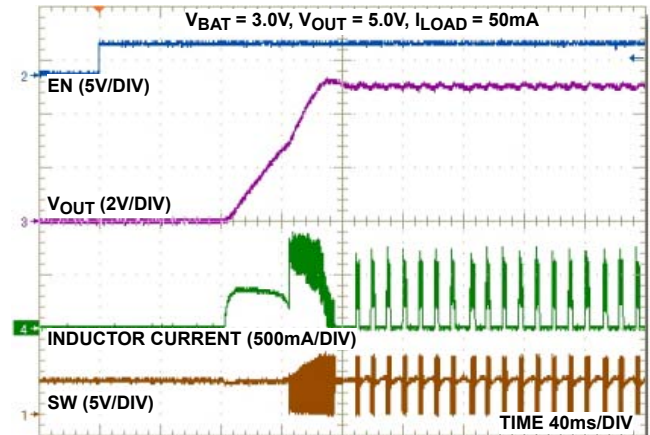

FIGURE 2. START-UP WITH $V_{IN} = 3V$ AND $V_{OUT} = 5V$, 50mA LOAD
Refer to the following Quick Setup Guide to configure and power-up the board for proper operation. During the power-on process, the expected waveforms are shown in Figure 2.
6. Monitor the output voltage start-up sequence on the scope. The waveforms will look similar to that shown in Figure 2.